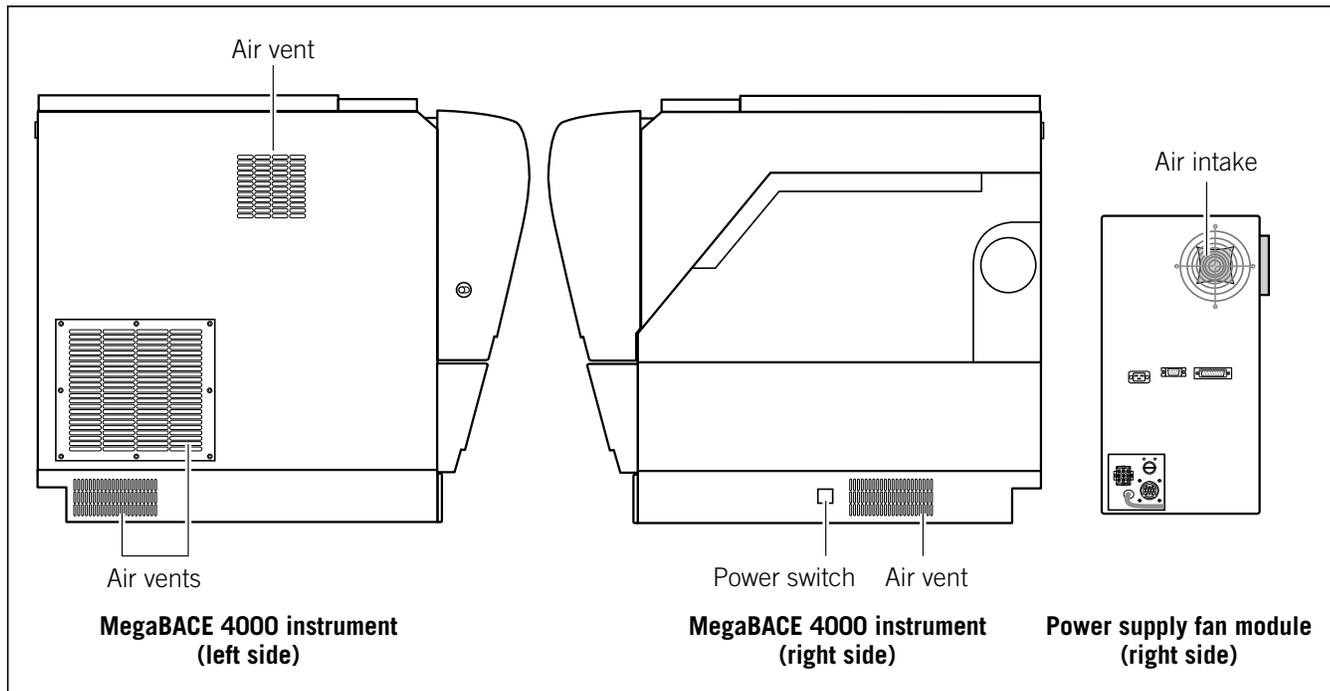

Figure 4-1. Make sure the airflow openings on the MegaBACE instrument and power supply fan module are free of obstructions.
- Nothing is blocking free air access to the air vents on the sides and top of the MegaBACE instrument and on the back of the power supply fan module (figure 4-1). The exhaust on the side of the power supply fan module can be connected to an exhaust hose that is vented out of the room. If the exhaust fan is external to the power supply fan module, make sure the fan is on. You should plug the power supply fan module into an uninterruptible power supply (UPS).
- The power supply fan module is plugged in, and the key on the back of the unit is in the horizontal (on) position (figure 4-1).
1. Turn on the power switch on the right side of the instrument (figure 4-1).